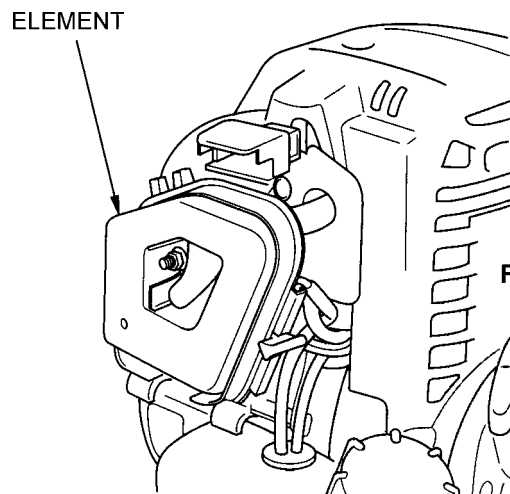

FIG 31
The air filter (Fig 31) is one of the most important areas to maintain. If it is not maintained, you will void the warranty. Before cleaning, make sure the unit is turned off.
2. If air filter is dirty then correct idle adjustment can not be made and air filter must be cleaned. Refer to Air Filter Maintenance and Fig 31, 32 and 33A.